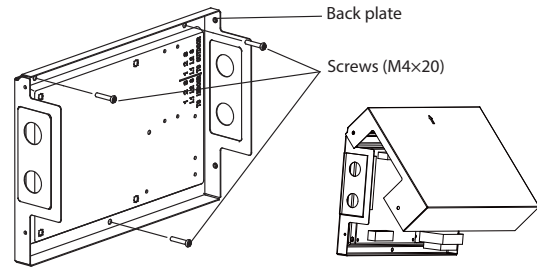

Fig. 7 — 24V Interface Kit
2. Mount the **24V INTERFACE KIT** horizontally (see Fig. 7), by fastening the back plate to the wall with 3 screws (M4x20) and anchors.